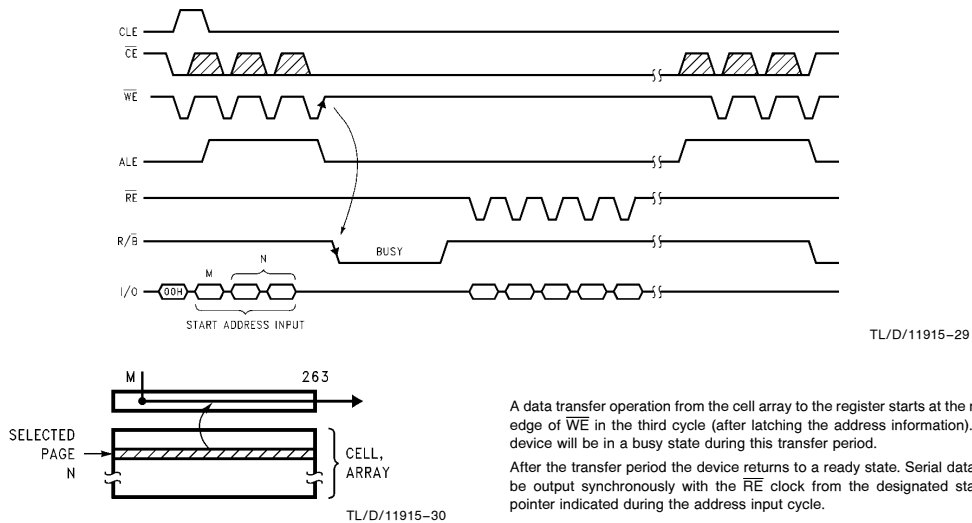

FIGURE 2. Read Mode (1) Operation
The Read mode (1) is set by issuing a "00H" command to the command register. Refer to *Figure 2* below for timing details and block diagram.